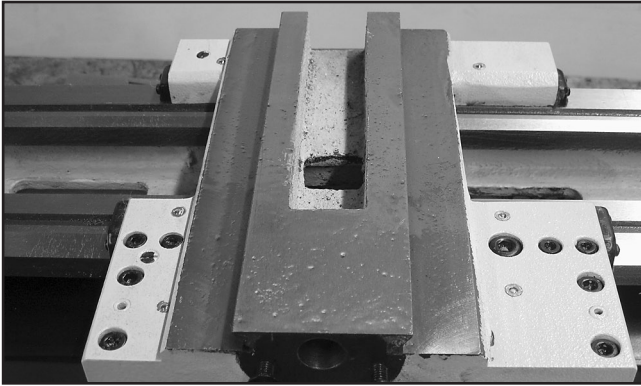

Figure 26. Way oil applied to cross slide ways.
8. Apply a liberal coat of way oil on the cross slide ways (**Figure 26**), and slide the cross side back on.